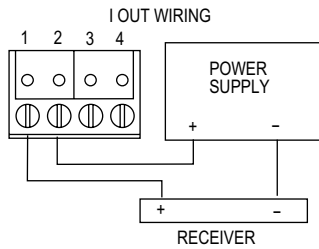
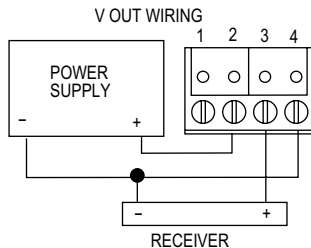

Figure 1
Figure 2
7. Proceed with wiring according to Figures 1 and 2.
Use maximum 18 AWG wire for wiring terminals. Refer to Figure 1 or Figure 2 for wiring information. The terminal block is removable for ease of installation.